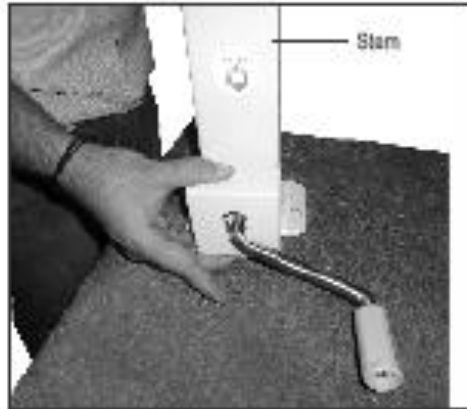
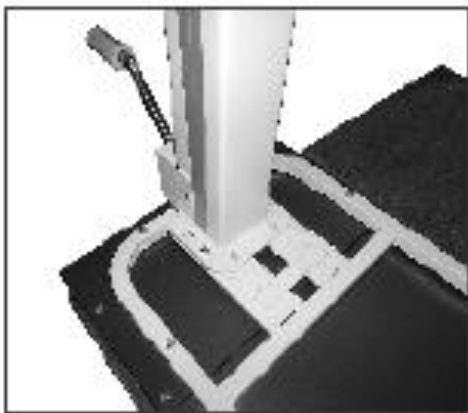

Fig 2
Fig 3
5. Place the stem (Fig 2) on the top as shown in (Fig 3) and fasten it with top using bolts